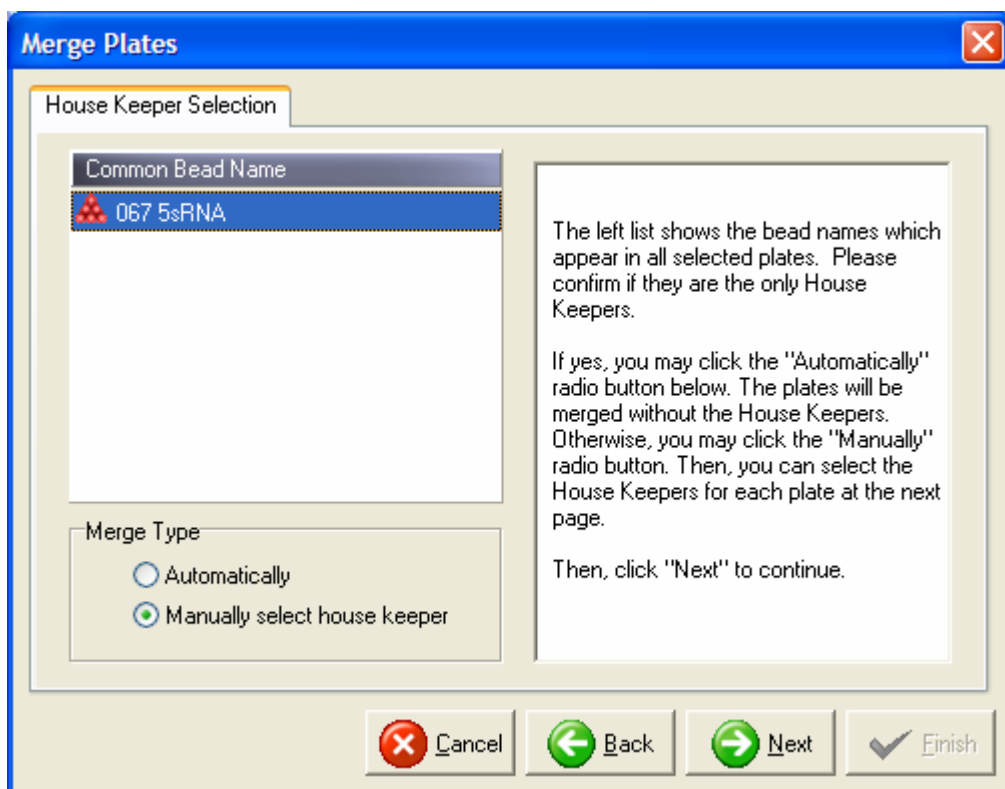

Figure 6.15 Merge method selection
3. Now you will see a list of bead (analyte) names which appear in all selected plates(Figure 6.15). If you confirm they are the common house keeping genes and want to exclude them from the virtual plate, you may choose “Automatically” merge, then finish wizard. Otherwise, you may choose to “Manually select house keepers”, then go to the next step.